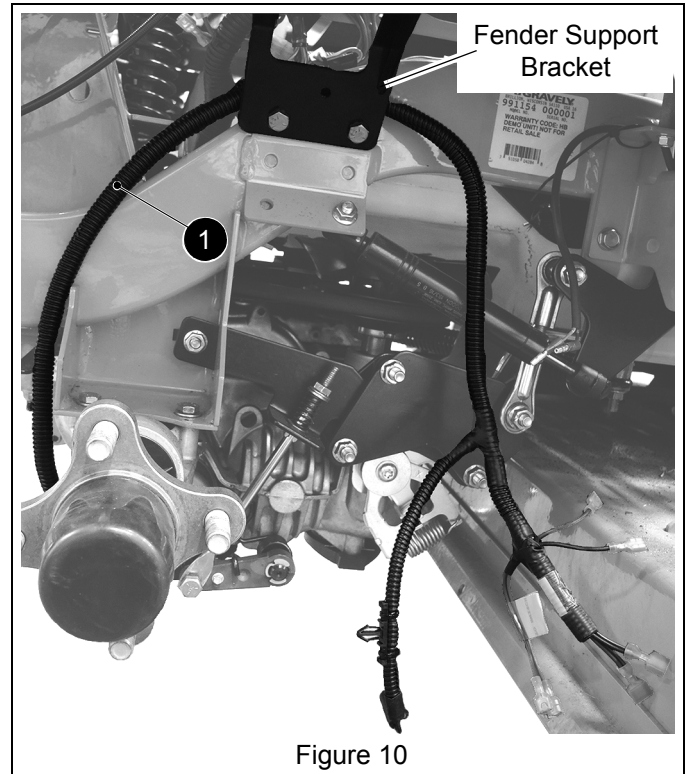

Figure 10
14. Route headlight wire harness (item 1) across right fender support bracket. See Figure 10.